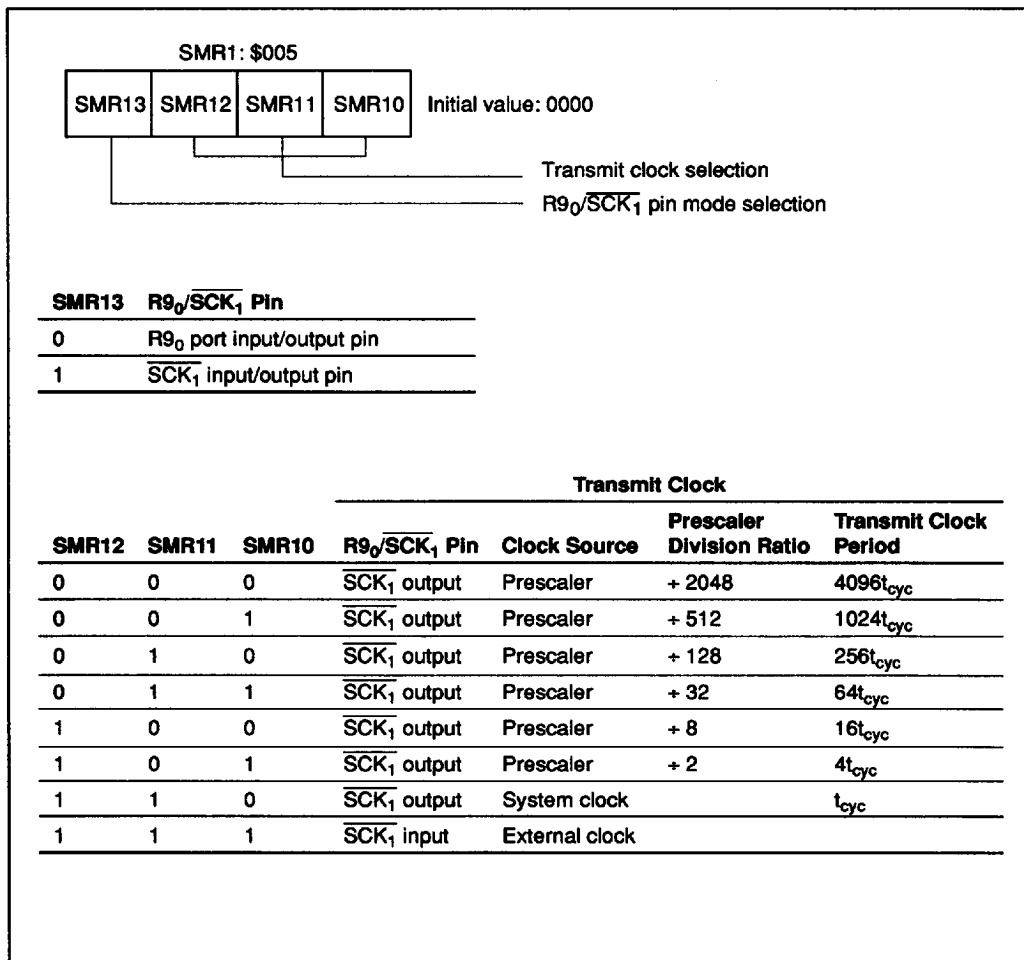

Figure 45 Serial Mode Register 1
**Serial Mode Register 1 (SMR1: \$005):** Four-bit write-only register which controls the  $R9_0/\overline{SCK}_1$  pin, transmit clock, and prescaler division ratio for serial interface 1 as shown in figure 45. Writing to SMR1 initializes serial interface 1.